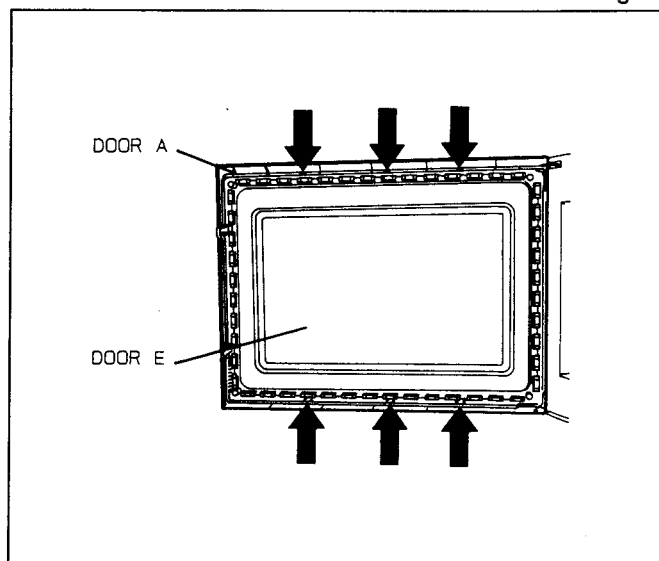

Fig. 24
- (D) Separate the door A from the door E by freeing 6 catch hooks on the door A. (Fig. 24)